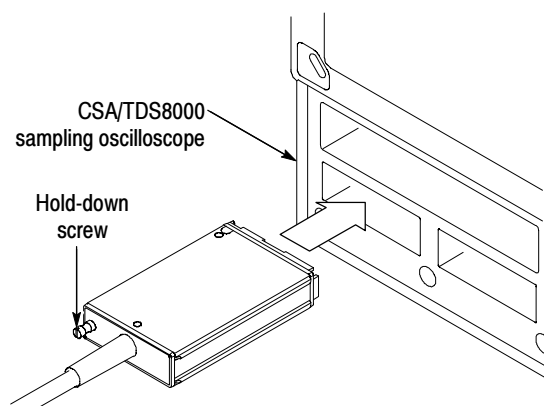

Figure 3: Extender cable connection to the sampling oscilloscope
2. Install the TekConnect Probe Interface Module Extender Cable connector into any of the small sampling module compartments on the front panel of the sampling oscilloscope. See Figure 3.